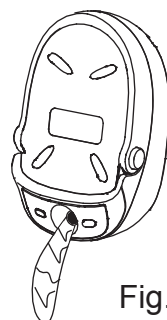

Fig.9
- After use, pour out all the remaining water. (Fig.9.)